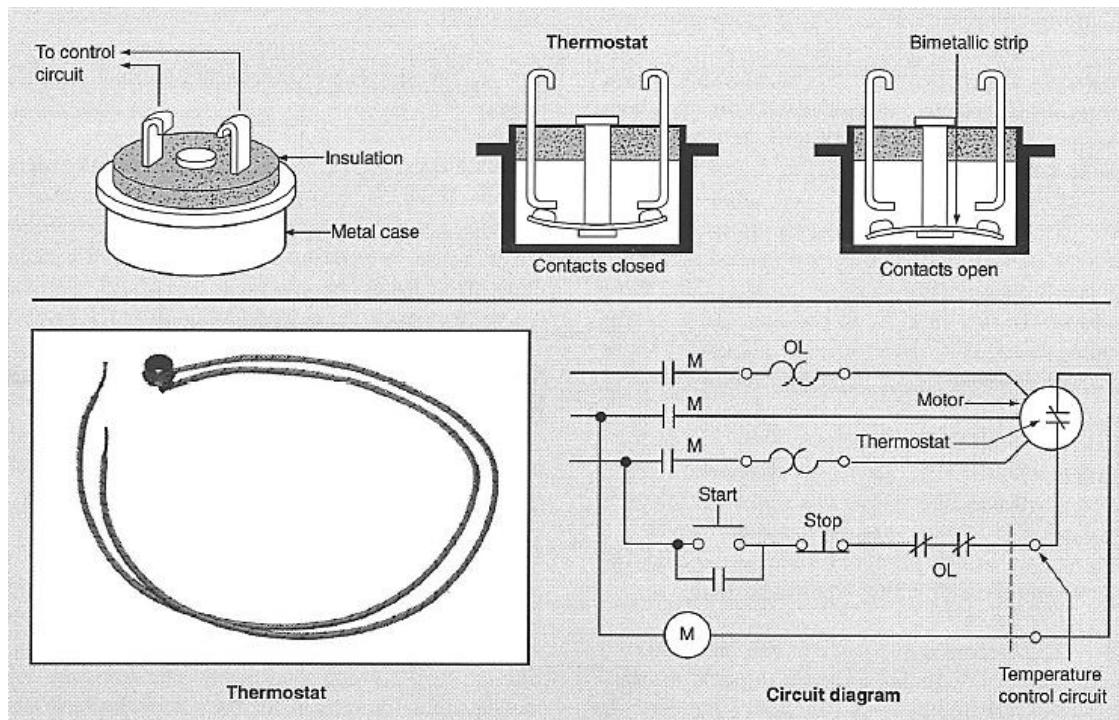

Figure 6.5: Motor-Winding Thermostat
- 6-37 One version of the winding thermostat is shown in Figure 6.5. Notice the action of the bimetallic strip, shown in the internal views. The photograph shows a typical thermostat that would be installed in a motor winding. The circuit diagram shows how the thermostat is connected in the motor-control circuit.